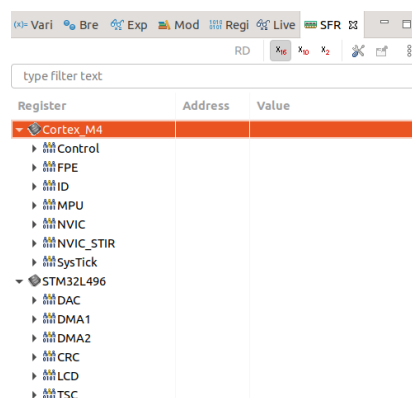

Fig. 11: Special function register values
- **Register values** : can be observed in the right panel. The **register** tab contains the values of the registers of the ARM Cortex and the **SFR** (Special Function Register) tab as shown in Figure 11 contains the values of the peripheral registers.